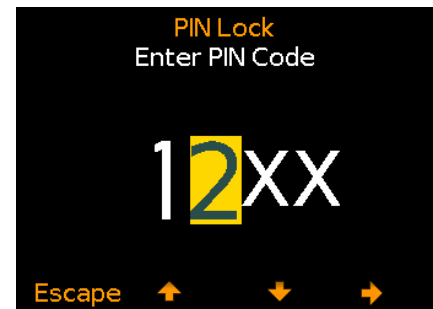

Figure 25
- 2 Set the four digit PIN code using the $\uparrow\downarrow$ softkeys to select 0 to 9 and the \rightarrow softkey to move to the next digit^d (Figure 25).